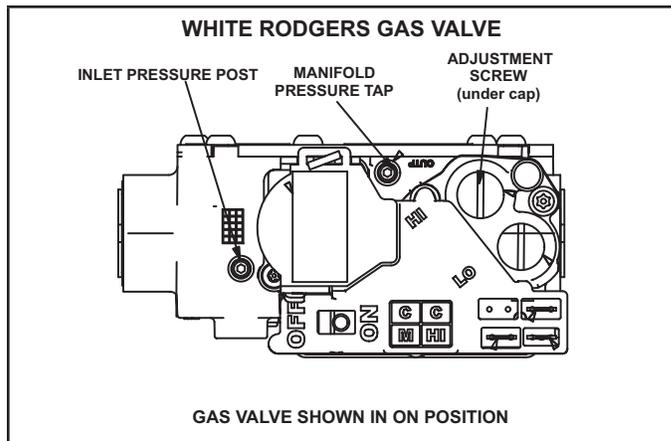

Figure 2
Operating the Gas Valve (Figures 2)
- 6 - Move switch on gas valve to OFF. Do not force. See figure 2.
- 8 - Move switch on gas valve to ON. Do not force. See figure 2
- 4 - Move switch on gas valve to OFF. Do not force. See figure 2.